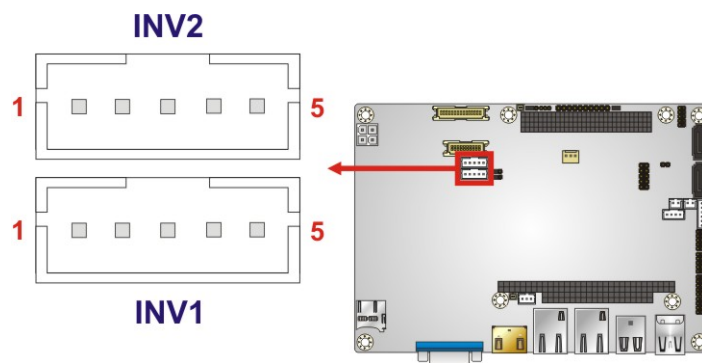

Figure 3-4: Backlight Inverter Connector Locations
- CN Location:** See **Figure 3-4**